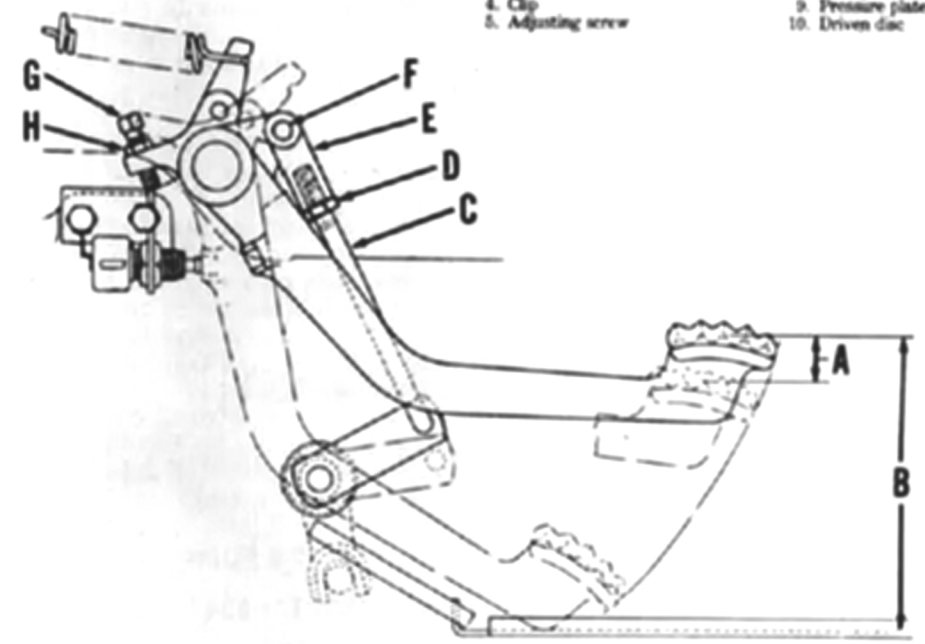

Fig. 59—View showing the adjusting points of the engine clutch linkage on Models 684, 784 and 884. Refer to text.
71. To adjust the engine clutch linkage, refer to Fig. 59 and adjust pedal free height (B) as follows: Loosen jam nut (H) and adjust screw (G) until pedal free height measures 6 inches. Tighten jam nut (H).